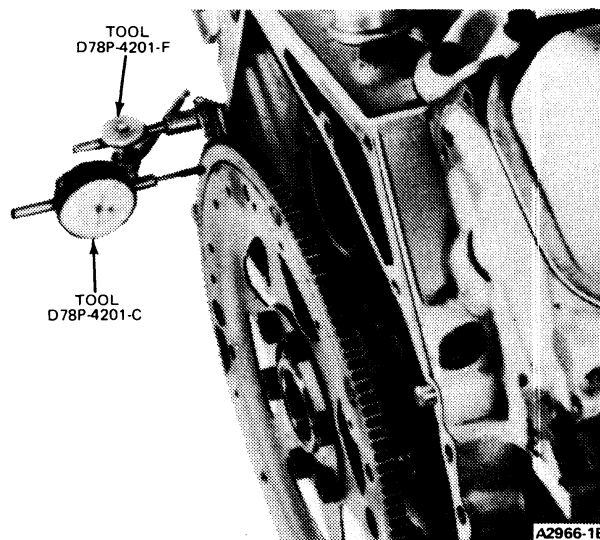

FIG. 27 Checking Flywheel Runout
1. Check flywheel runout (Fig. 27) and ring gear runout following procedure in Part 21-01. See Specifications at the end of this Part.